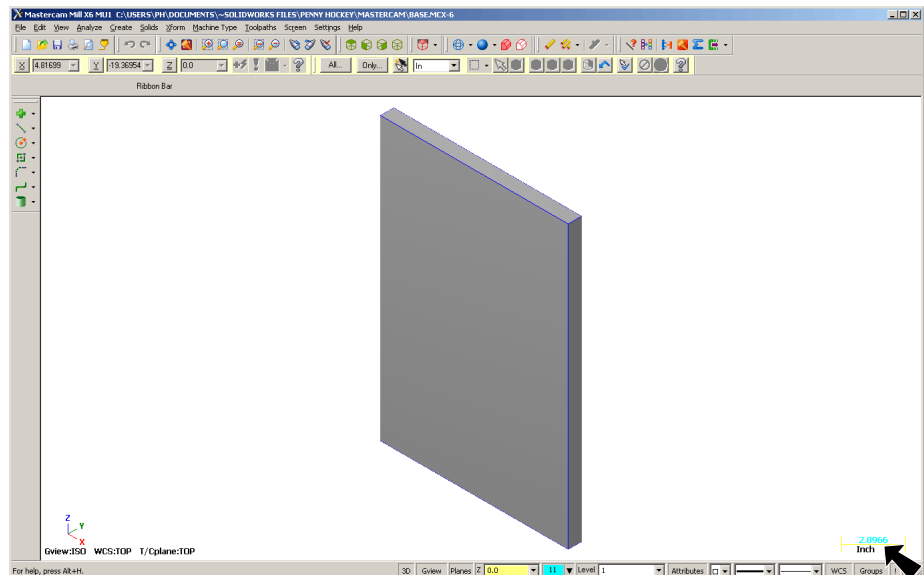

Fig. 3
Step 6. Click **Fit**  or use **Alt-F1** to fit, Fig. 3.
Step 1. Confirm in the bottom right corner of the display the units are **Inch**, Fig. 3.